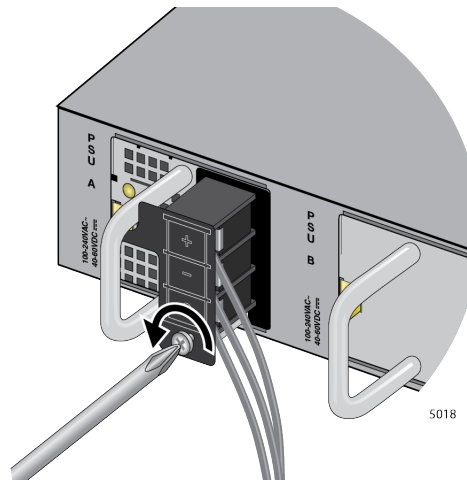

Figure 135. Loosening the Screw for the Panel
2. Loosen the screw for the connector panel with a Phillips-head screwdriver. Refer to Figure 135.